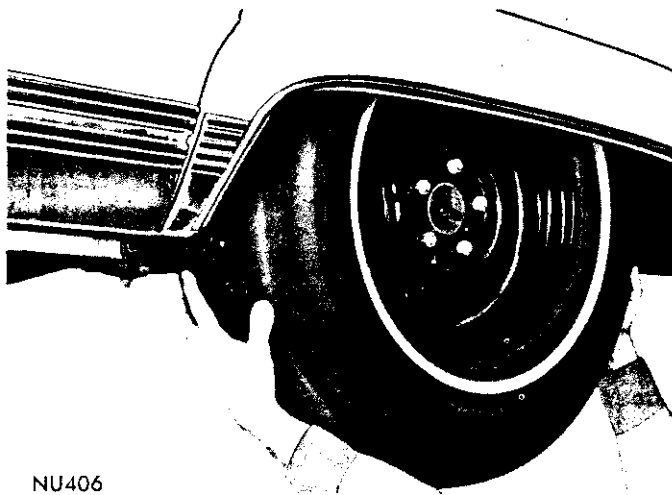

Fig. 3—Testing Sure-Grip Differential Effectiveness
(1) Position vehicle on a hoist with engine off and the transmission selector lever in park if automatic or in low gear if manual.
(2) Attempt to rotate wheel by applying turning force with hands gripping tire tread area (Fig. 3).
(3) If you find it extremely difficult, if not impossible to manually turn either wheel, you can consider the sure-grip differential to be performing satisfactorily. If you find it relatively easy to continuously turn either wheel the differential is not performing properly and should be removed and replaced. The Sure-Grip Differential and internal parts are serviced as a complete assembly only. **Under no circumstances should the differential be removed and disassembled and reinstalled.**